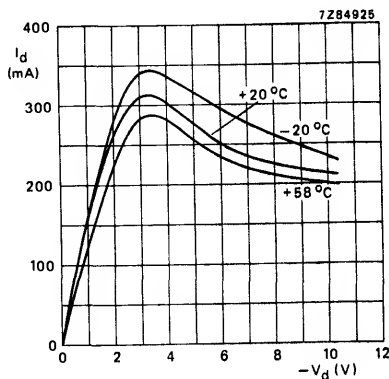

Fig. 2 D.C. bias characteristics of the Gunn oscillator for  $T_{HS} = -20, +20$  and  $+58\text{ }^{\circ}\text{C}$ .
2. The power supply should be low-impedance voltage regulated and capable of supplying approximately 1,5 times the normal operating current to initiate oscillations. See Fig. 2.